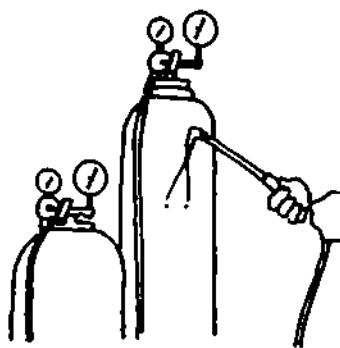

Figure 18-14. Opening Oxygen Needle Valve and Adjusting Flame
- l) Open the oxygen needle valve and adjust the flame (Figure 18-14).